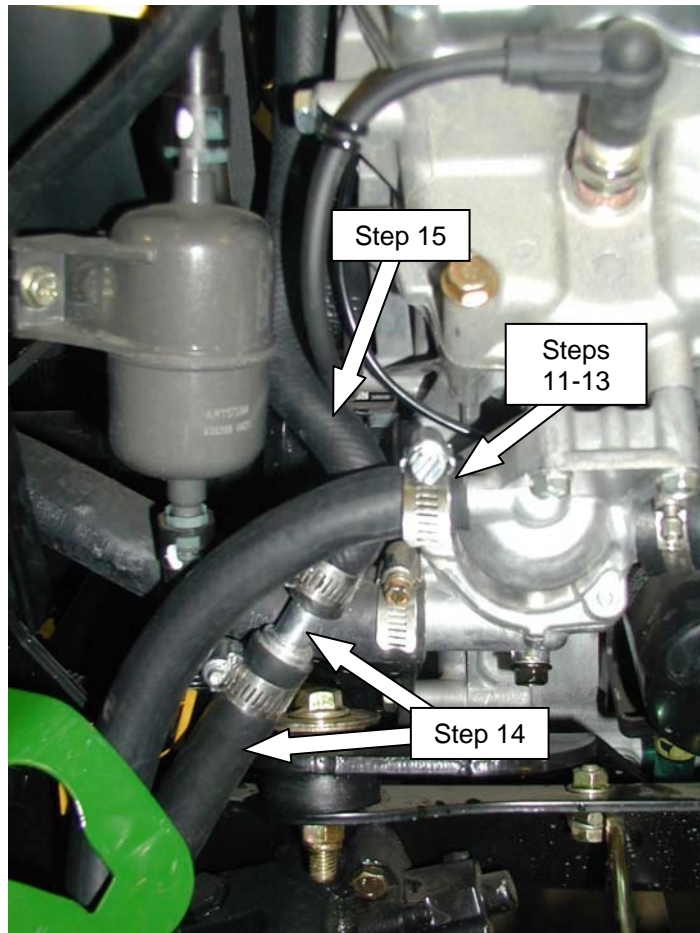

Figure 4
FOR GAS ENGINES ONLY (Figure 4), follow steps 9-15 (For Diesel engines skip to step 16);
- Connect 1/2" ID x 36.00" long heater hose (8) to the shortened 10" heater hose from step 9, using one 1/2" x 5/8" hose reducer fitting (7) and two No. 10 hose clamps (10).
- Locate the 1/2" bypass hose that is located behind the engine's thermostat area (**Figure 4**).
- Connect remaining end of the 1/2" ID x 36" long heater hose (8) to the engine's upper bypass nipple from step 12. Secure using a No. 10 hose clamp. This will be the heat source hose from the engine to the H-valve (and to the heater) (**Figure 4**).
- Install a 1/2" x 5/8" hose reducer fitting (8) to the end of the bypass hose from Step 12. Secure using a No. 10 hose clamp (10). Tighten both clamps (**Figure 4**).
- Connect 5/8" x 44" long heater hose from the remaining H-Valve outer nipple, to the bypass hose and reducer fitting from step 12. Secure using a No. 10 hose clamp. This hose will be the return route from the H-valve (and the heater) to the engine (**Figure 4**).